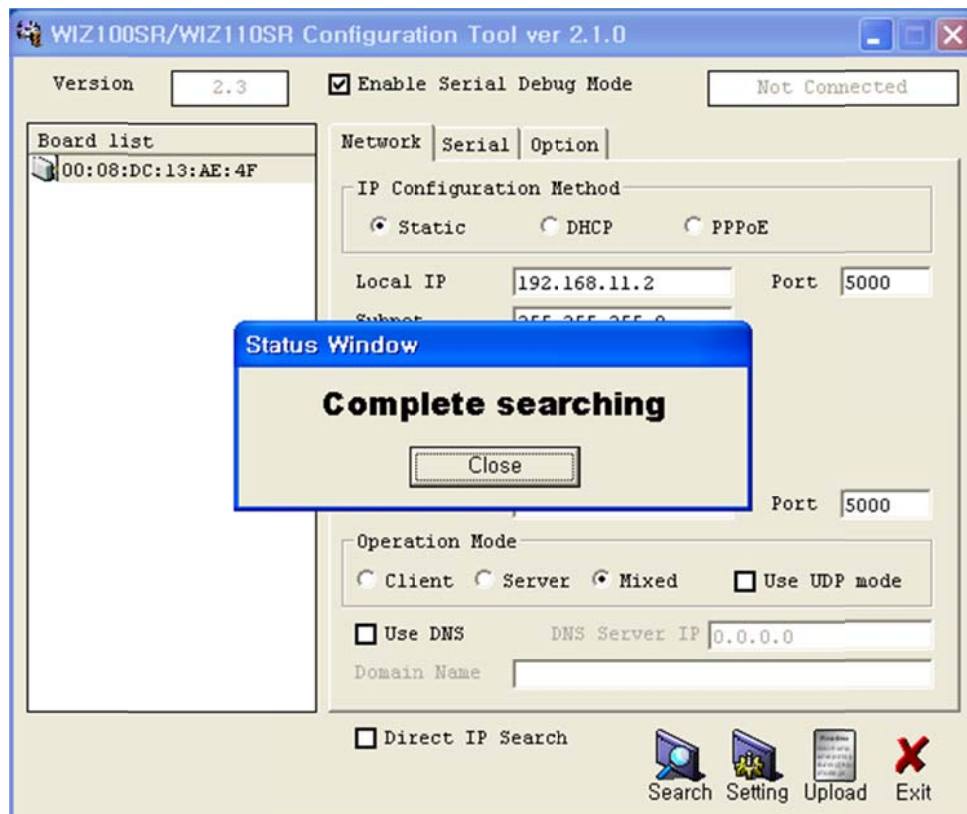

Figure 10. Board Search Window
- ③ Select a module shown in "Board list", and click "Upload" button.
- 👉 Before uploading through Ethernet, you should set the network information of WIZ110SR first by Configuration Tool program as shown above Fig 10. By using Ping test,
- ④ When the window as shown below Figure is displayed, select file for upload and click "Open" button.